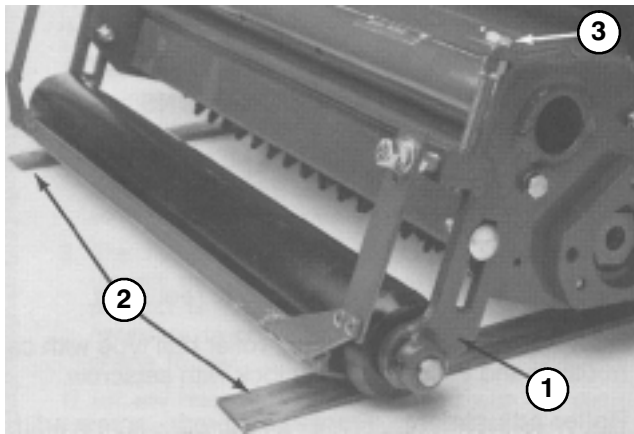

Figure 2
ADJUSTING DETHATCHER REEL BLADES FOR NEGATIVE SETTING (Below ground) (Fig. 2)
2. Loosen the (2) locknuts on carriage bolts securing rear roller brackets to dethatcher frame (Fig. 2).
3. Place (2) gauge bars, which have the desired depth of blade penetration below ground, under the front and rear rollers of the dethatcher reel (Fig. 2).